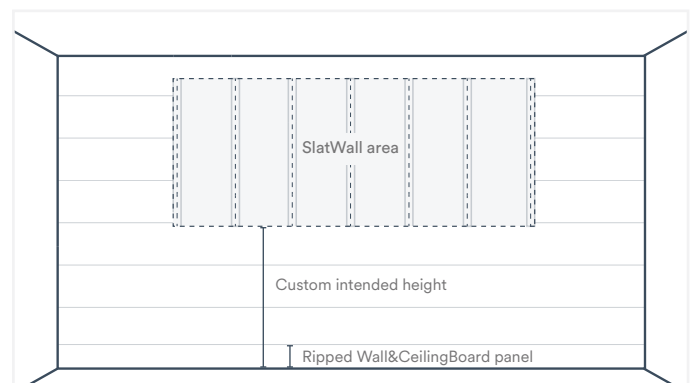

Fig. 23
- If the desired distance from the floor to the bottom of the first SlatWall panel is not an even multiple of 16", the Wall&CeilingBoard panel closest to the floor should be ripped to an appropriate width to achieve the desired SlatWall height (Fig. 23). The resulting connection between SlatWall and Wall&CeilingBoard is shown below.